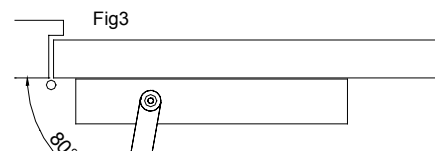
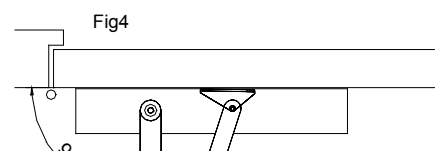
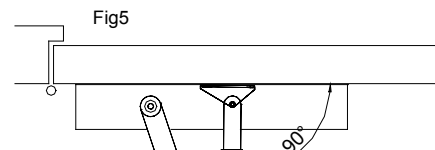

Fig3
Fig4
Fig5
➤ **TS2000 only. For TS2000 BC see below.** If latch action is required (to overcome a latch or seals.) Separate the primary and secondary arms. This can be done using a screwdriver as a lever. The arm sections will snap together and apart. Secure the primary arm to the spindle using M6 allen bolt supplied. Ensure splines are interlocked. Locate arm at approx. 80° with respect to the door leaf, towards the hinge point. (See figure 3.) Fix the secondary arm to the transom using the screws provided and loosen 10mm locking bolt on arm. Secure primary and secondary arms together (simply click in place.) Prime the closer slightly by rotating the **primary** arm to approx. 90° with respect to the door leaf and tighten the locking bolt. (See figure 4.)
➤ **TS2000 only. For TS2000 BC see below.** If no latch action is required. As above however when priming the closer rotate the **secondary** arm to approx. 90° with respect to the door leaf and tighten the locking bolt. (See figure 5.)
➤ **TS2000 BC.** Secure the primary arm to the spindle using M6 allen bolt supplied. Ensure splines are interlocked. Locate arm at approx. 80° with respect to the door leaf, towards the hinge point. (See figure 3.) Fix the secondary arm to the transom using the screws provided and loosen 10mm locking bolt on arm. Secure primary and secondary arms together (simply click in place.) Prime the closer slightly by rotating the primary arm to approx. 90° with respect to the door leaf and tighten the locking bolt.
>**TS2000 only. For TS2000 BC see below.** If latch action is required (to overcome a latch or seals.) Separate the primary and secondary arms. This can be done using a screwdriver as a lever. The arm sections will snap together and apart. Secure the primary arm to the spindle using M6 allen bolt supplied. Ensure splines are interlocked. Locate arm at approx. 80° with respect to the transom, towards the hinge point. (See figure 3.) Fix the secondary arm to the door leaf using the screws provided and loosen 10mm locking bolt on arm. Secure primary and secondary arms together (simply click in place.) Prime the closer slightly by rotating the **primary** arm to approx. 90° with respect to the door leaf and tighten the locking bolt. (See figure 4.)
>**TS2000 only. For TS2000 BC see below.** If no latch action is required. As above however when priming the closer rotate the **secondary** arm to approx. 90° with respect to the door leaf and tighten the locking bolt. (See figure 5.)
>**TS2000 BC.** Secure the primary arm to the spindle using M6 allen bolt supplied. Ensure splines are interlocked. Locate arm at approx. 80° with respect to the transom, towards the hinge point. (See figure 3.) Fix the secondary arm to the door leaf using the screws provided and loosen 10mm locking bolt on arm. Secure primary and secondary arms together (simply click in place.) Prime the closer slightly by rotating the primary arm to approx. 90° with respect to the door leaf and tighten the locking bolt.
➤ Separate the primary and secondary arms. This can be done using a screwdriver as a lever. The arm sections will snap together and apart. Secure the primary arm to the spindle using M6 allen bolt supplied. Ensure splines are interlocked. Locate arm at approx. 10° towards the rear of the closer. (See figure 3 and 4.) Turn closing speed valve, located on the front of the body of the closer fully clockwise. This will decrease the closing speed to almost zero. Do not overtighten. Rotate primary arm to approximately 90°. (See figure 5 and 6.) Secure closer body to door leaf with fixings provided, making sure that the spindle is positioned away from the hinge side. (See figure 1 and 2 above.) The power size (closing force) of the TS2000 is not adjustable in this configuration and the unit must be mounted using the centre fixing holes. Secure primary and secondary arms together (simply click in place.)
• The back check is a segment of the closers opening cycle with increased resistance. In this configuration it is factory set to come in when the door is at approx. 100°. In order to bring this in earlier fit closer as described above. Separate the primary and secondary arms. Turn closing speed valve, located on the front of the body of the closer fully clockwise. This will decrease the closing speed to almost zero. Do not overtighten. Rotate the primary arm approx. 90° in the direction of travel (roughly perpendicular to the door leaf.) Loosen the M6 allen bolt securing the primary arm to the closer body enough to enable adjustment. Rotate the primary arm 1 notch of the splined spindle in the opposite direction of travel. Re-tighten M6 allen bolt securing the primary arm to the closer body. Loosen 10mm locking bolt on secondary arm and re-connect primary and secondary arms. Re-adjust the closing speed. Rotate primary arm in direction of travel (away from door leaf) until an angle of approx. 2° is reached in relation to the door leaf. (See figure 5 and 6.) Tighten the 10mm locking bolt. If on testing the back check is still not early enough repeat above until adjusted satisfactorily